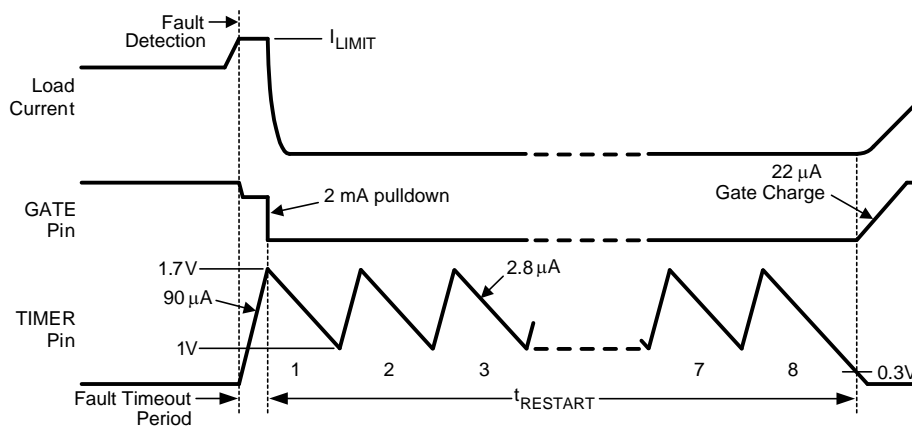

Figure 35. Restart Sequence
The LM25066 provides an automatic restart sequence which consists of the TIMER pin cycling between 1.7V and 1V seven times after the Fault Timeout Period, as shown in Figure 35. The period of each cycle is determined by the 90 μA charging current, and the 2.8 μA discharge current, and the value of the capacitor C_T . When the TIMER pin reaches 0.3V during the eighth high-to-low ramp, the 22 μA current source at the GATE pin turns on Q_1 . If the fault condition is still present, the Fault Timeout Period and the restart sequence repeat. The $\overline{\text{RETRY}}$ pin allows selecting no retries or infinite retries. Finer control of the retry behavior can be achieved through the DEVICE_SETUP (D9h) register. Retry counts of 0, 1, 2, 4, 8, 16 or infinite may be selected by setting the appropriate bits in the DEVICE_SETUP (D9h) register.
C) Restart Timing - For the LM25066, after the Fault Timeout Period described above, C_T is discharged by the 2.8 μA current sink to 1V. The TIMER pin then cycles through seven additional charge/discharge cycles between 1V and 1.7V as shown in Figure 35. The restart time ends when the TIMER pin voltage reaches 0.3V during the final high-to-low ramp. The restart time, after the Fault Timeout Period, is equal to: